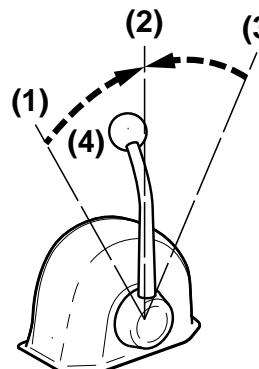

Figure 2
Use the throttle handle (**Figure 2, (4)**) to control acceleration and deceleration. Move the handle slowly.
2. NOTICE: NEVER shift the marine gear at high engine speed. During normal operation, the marine gear should only be shifted with the engine at idle. When moving the handle between FORWARD (Figure 2, (1)) and REVERSE (Figure 2, (3)), bring the clutch to NEUTRAL (Figure 2, (2)) and pause before slowly shifting to the desired position. Do not shift abruptly from FORWARD to REVERSE or vice versa.